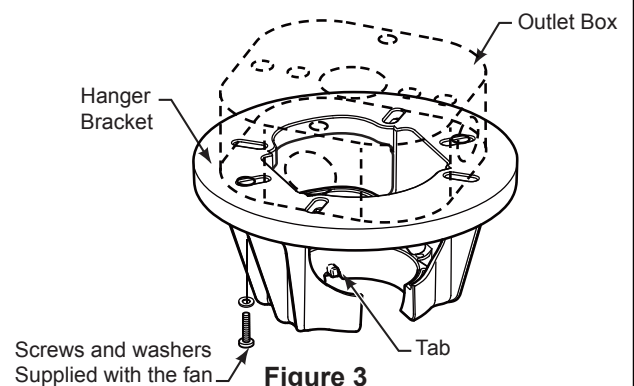

Figure 3
- ☐ 3. Carefully lift the fan and seat the downrod/hanger ball assembly on the hanger bracket that was just attached to the outlet box. (Figure 4) Be sure the groove in the ball is lined up with tab on the hanger bracket. (Figure 3)